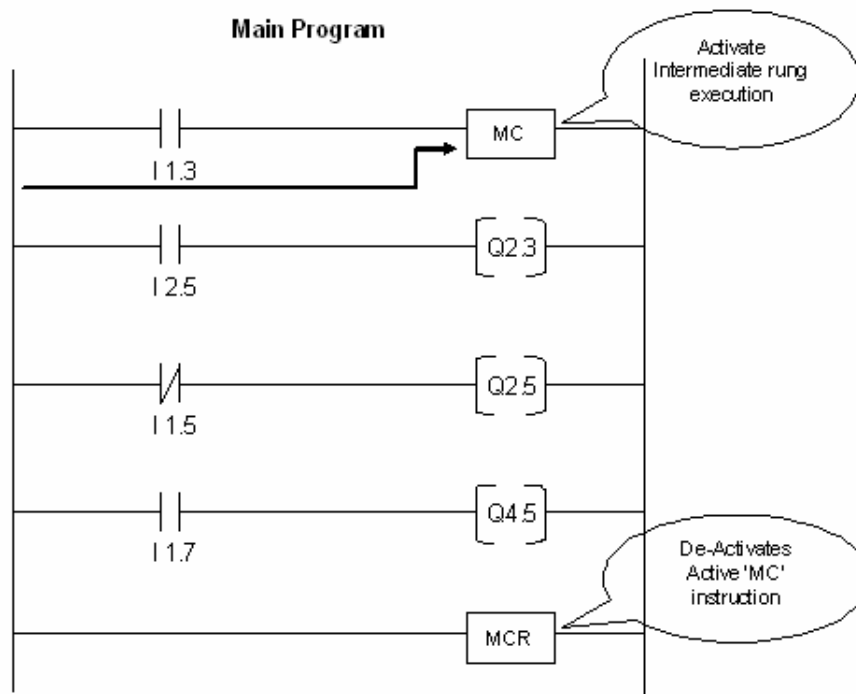

Figure 2.61
This is one of the “Program flow control” instructions, but with a difference. It is used inside a program block or segment to control the execution of a group of instructions. The “Master control” (MC) instruction is typically used in pairs with a “Master control reset” (MCR) as shown in Figure 2.61.